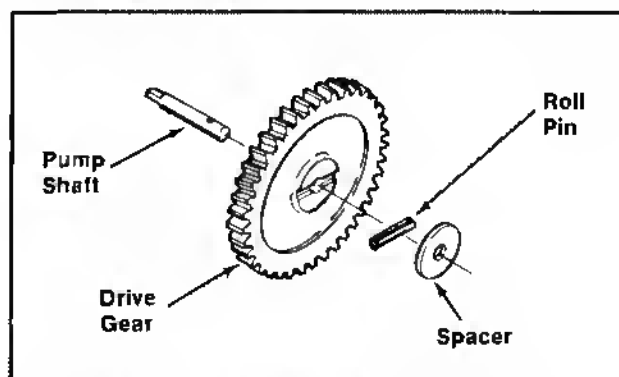

Figure 11-1. Installing Oil Pump Drive Gear.
1. Install the shim spacer (next to support rib), oil pump drive gear (slotted end of gear hub towards spacer and rib), and oil pump drive shaft (through support rib and into pump cavity). Refer to Figures 11-1 and 11-2.